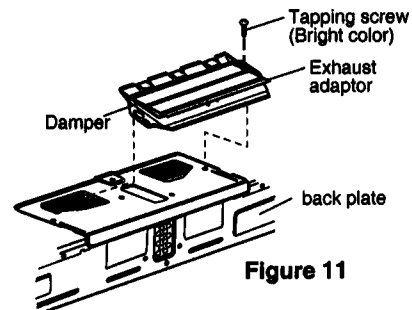

Figure 11
7. Attach the exhaust adaptor to the blower plate by sliding in into the guides. (See Figure 11)